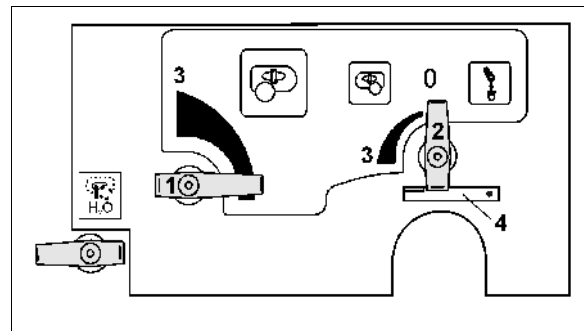

Fig. 42
- for the main agitator on the setting step tap (Fig. 42/1).
- for the auxiliary agitator on the setting step tap (Fig. 42/2).
When the step tap is in the 0 position the relevant agitator is switched off. The highest agitation intensity is achieved in position (Fig. 42/3).
Safety for the drainage function of the pressure filter (Fig. 42/4).